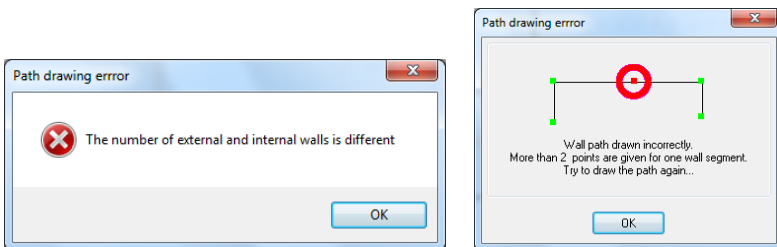

Fig. 71 – communicates about the incorrectly drawn path for walls
- If the path is incorrectly drawn you will be informed about it in the communicate (Fig. 71).